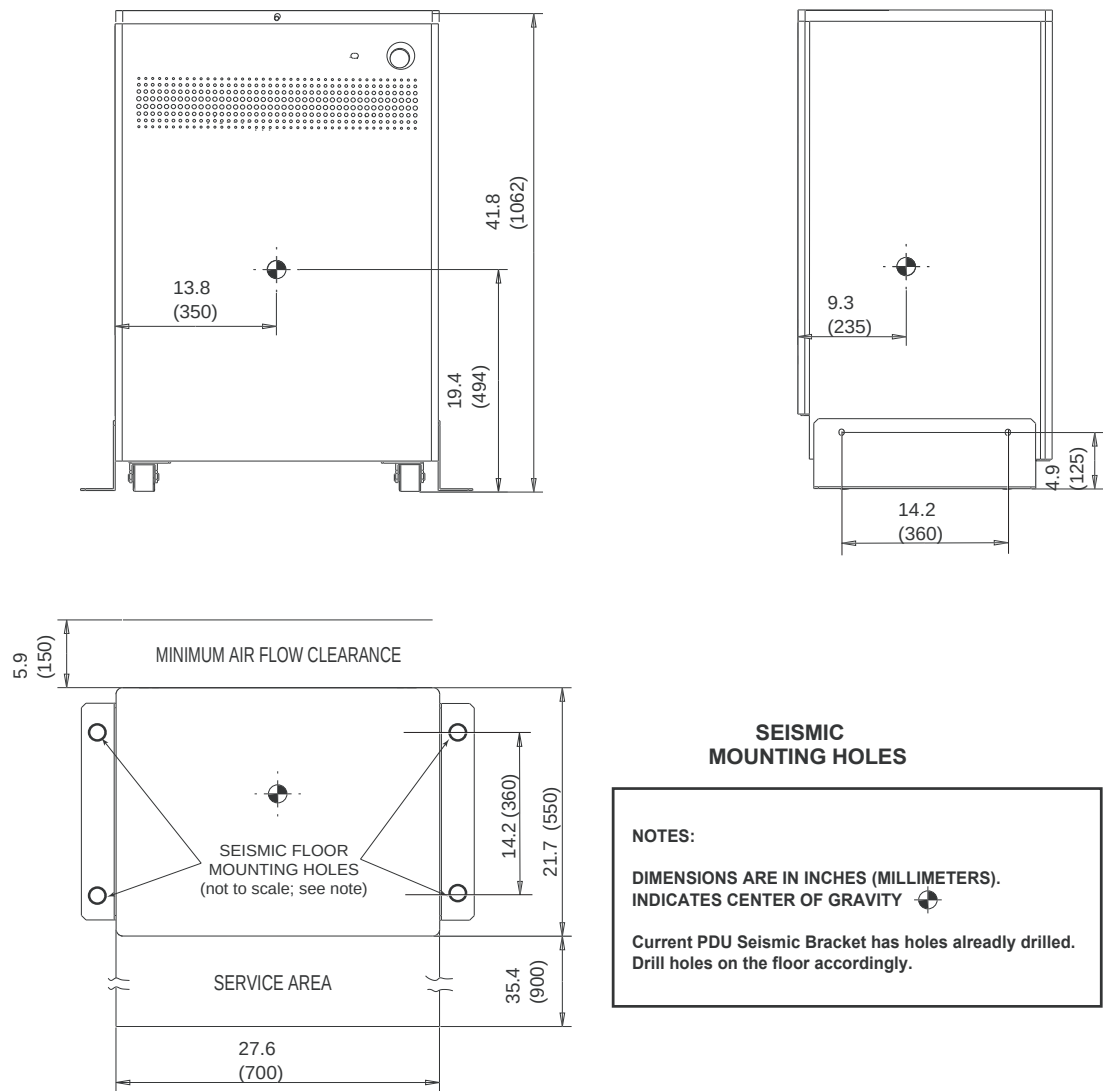

Figure 6-5 Power Distribution Unit (NGPDU)
- Power Distribution Unit: Figure 6-5